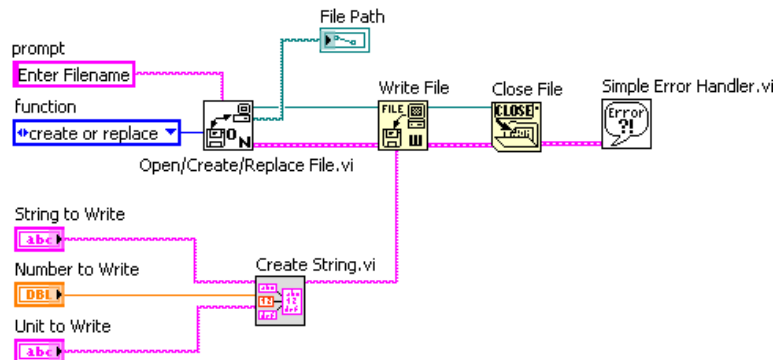

Figure 9.16
1. Build the block diagram shown in Figure 9.16.
- (f) Complete the block diagram as shown in Figure 9.16.